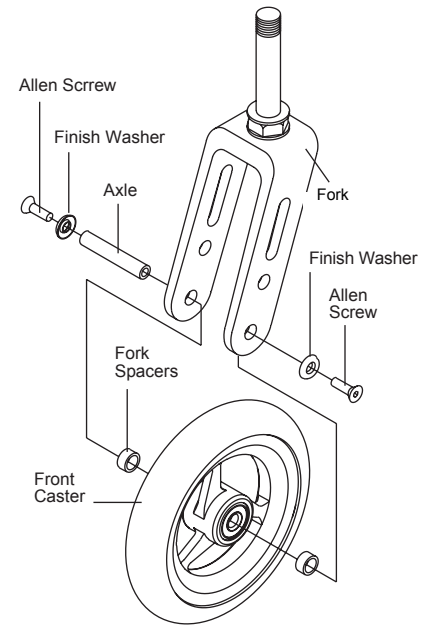

Figure 104
1. Remove the two Allen Screws, finish washers and axle that secure the front caster to the fork. **Note:** It will be necessary to use one Allen Wrench to hold one screw in place and a second Allen Wrench to loosen the other screw. See Figure 104.